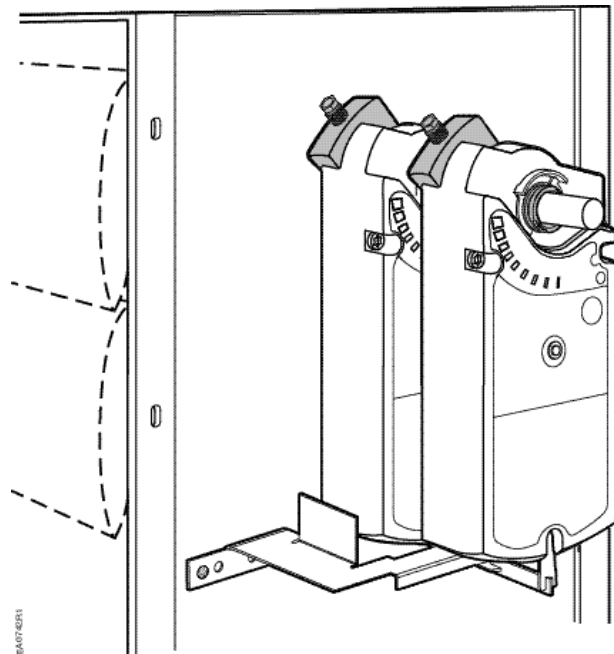

Figure 3.
11. Place the two actuators in parallel position. See *Figure 3*.